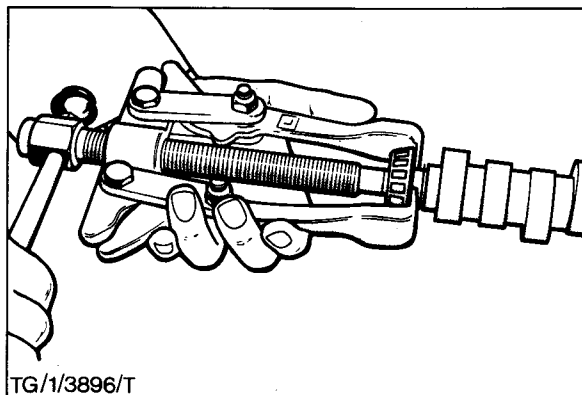

Fig. 43 - Removing a Camshaft Rear Bearing
25. Using a suitable puller (Fig. 43), remove the front and rear camshaft bearings. Remove the shim packs behind the bearings and retain them for reassembly.